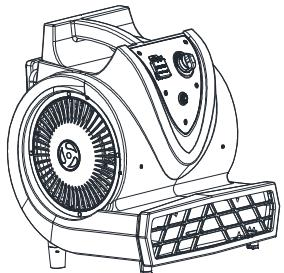

FIGURE 1
2) Adjust machine to desired position for operation by pulling it back to its preset height adjustments. (Air blower drying direction without Transport kit refer to **Figure 1**)